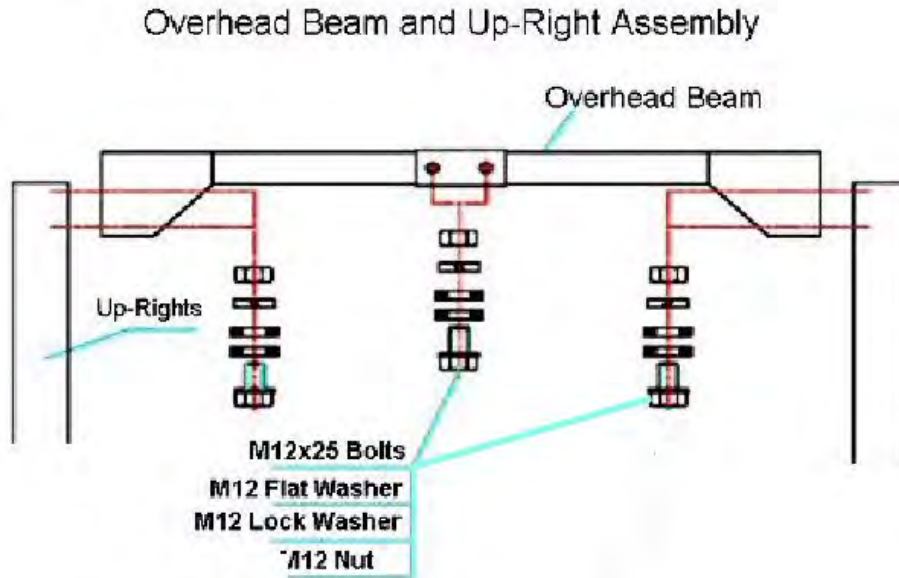

Figure 2-5. Overhead Beam Installation
STEP 13: Install the overhead cross beam as shown in figure 2-5. This cross beam has two pieces, to be connected by six (6) bolts in the center of the beam. Be sure to bolt them together by installing the bolts from inside the cross beam out. This is to avoid interference with the cable when operating the lift.